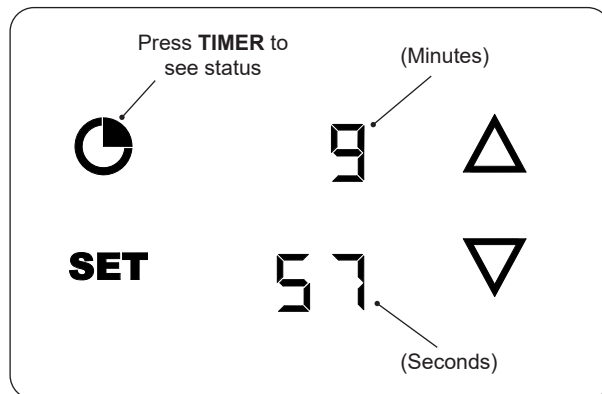

Fig. 41-2 Check timer status
- To check the timer status, press the **TIMER** button and the display will show the live countdown (for 5 seconds then, return to the default screen). See Fig. 41-2.
- The upper display indicates minutes and the lower display indicates seconds (see Fig. 41-2).